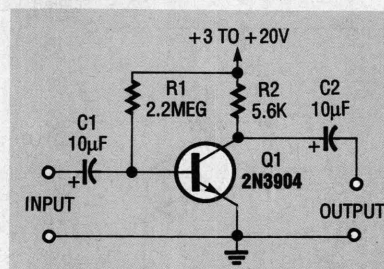
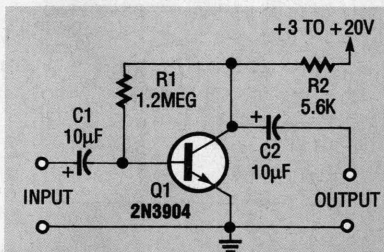

FIG. 10—SIMPLE NPN COMMON-emitter amplifier.
FIG. 11—COMMON-EMITTER amplifier with feedback biasing.
Figure 10 shows how a common-emitter amplifier can become a linear AC amplifier. This is done by applying a DC bias current to the base of Q1 so that the collector's quiescent value is about half its supply voltage. This bias permits the amplifier to accommodate high AC output swings without distorting them. The AC-input signal is applied between the base and ground of Q1, and the AC-output signal is taken between the collector and ground.
To design an AC amplifier as shown in Fig. 10, first decide on the value of load resistor R2.
Moreover, a low value of R2 will cause a higher quiescent operating current in Q1. In Fig. 10, resistor R2 has a value of 5.6 kilohms, a compromise that will amplify a frequency of about 120 kHz and draw about a milliampere of quiescent current from a 12-volt supply. To bias the output to half the supply voltage, R1 must have a value of
The voltage gain (A_v) of the circuit in Fig. 10 is calculated as follows:
Therefore, the maximum frequency response of the circuit in Fig. 10 (ignoring the effects of stray capacitance) is $300 \text{ MHz}/200 = \approx 1.5 \text{ MHz}$.
A shortcoming of the Fig. 10 circuit is that its quiescent
biasing point is a function of transistor current gain (h_{FE}). This handicap can be overcome by modifying the circuit as shown in Fig. 11. Here 1.2-megohm biasing resistor R1 is connected to provide DC feedback between the base and collector. Its value was determined by multiplying R2 (5.6 kilohms) by h_{FE} (200).
The Fig. 11 circuit offers the same bandwidth and voltage gain as the circuit in Fig. 10, but it has a lower input impedance because the AC feedback of
the Fig. 11 circuit reduces the effective value of resistor R1. That resistor, which shunts the 5-kilohm base impedance of Q1, is reduced by the voltage gain of 200. As a result, total input impedance is 2.7 kilohms.